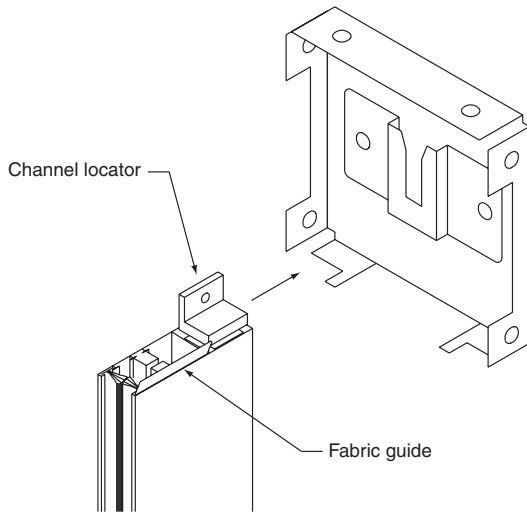

Figure 6
- ⑤ Install side channels (*NOTE: Insure side channels, headbox, and sill channel are square*).
A. Install channel locator and fabric retainer in the top of each side channel then slide into place (see Fig. 6).